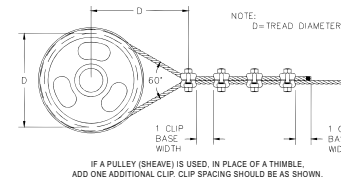

Figure 4
4. If a pulley (sheave) is used in place of a thimble, add one additional Fist Grip. Fist Grip spacing should be as shown. (See Figure 4)